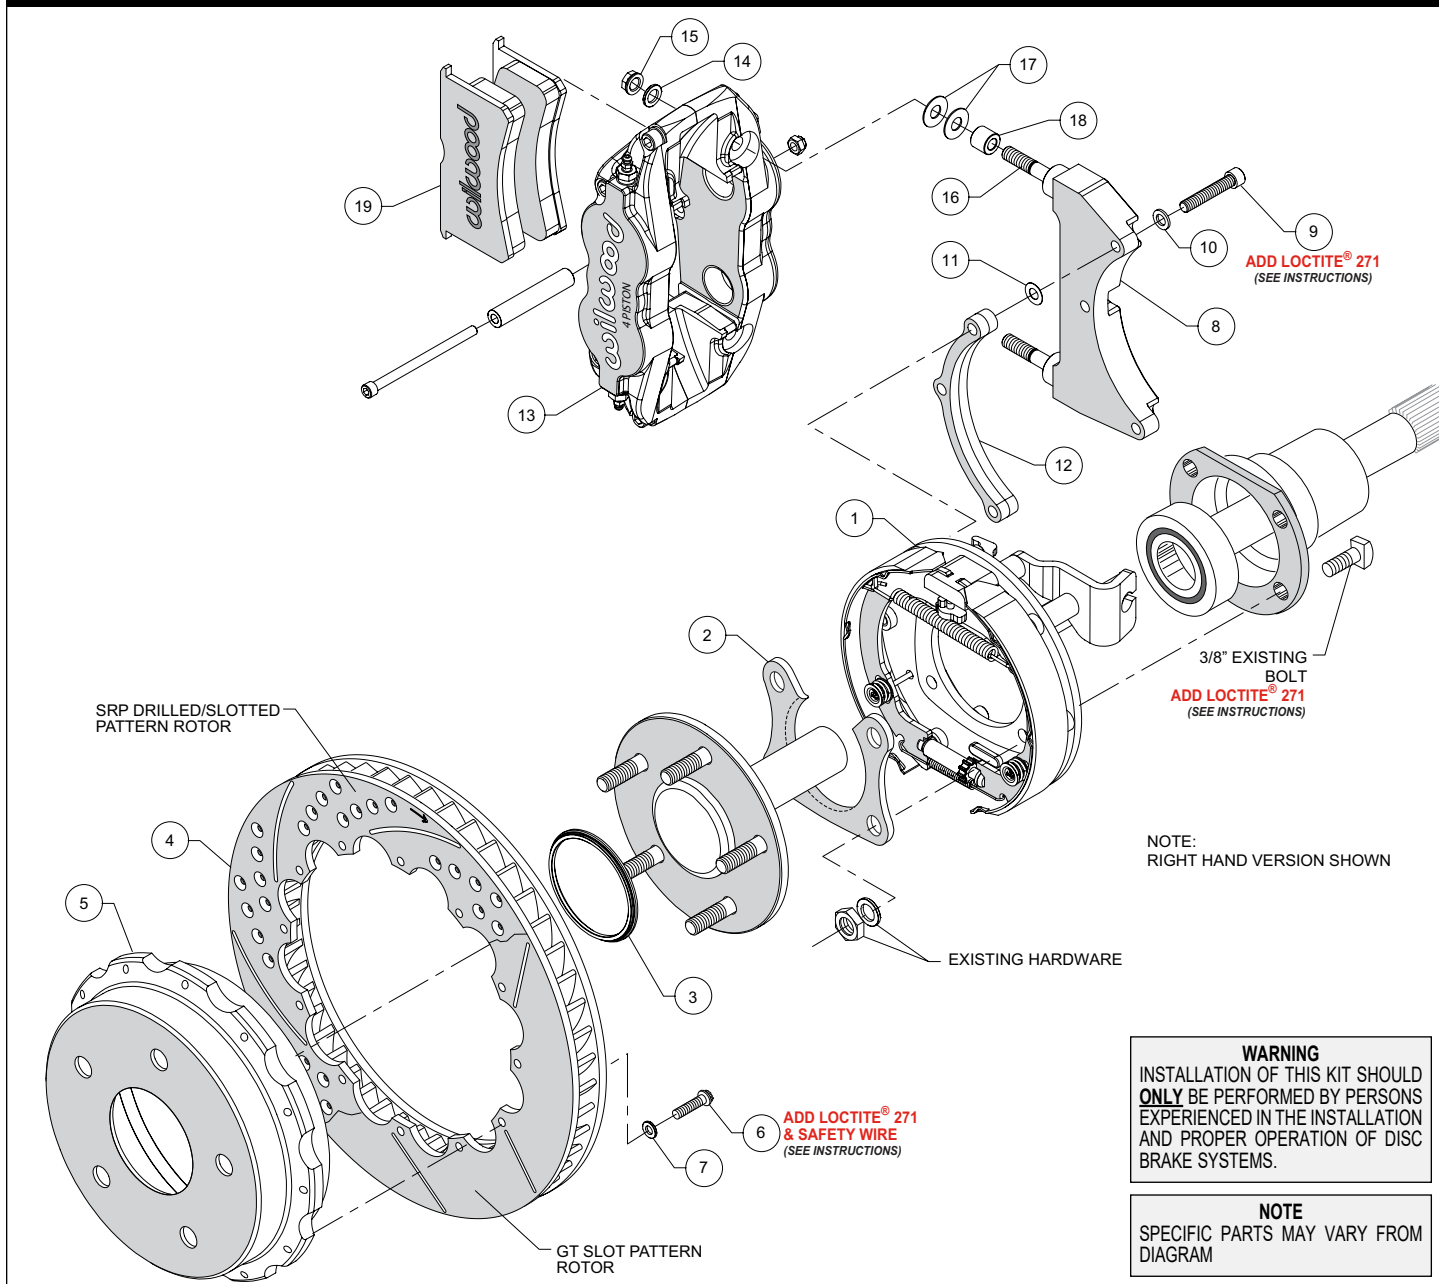
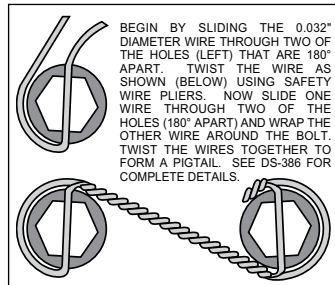

Figure 1. Typical Installation Configuration
Figure 5. Safety Wire Diagram
Assembly Instructions (numbers in parenthesis refer to the parts list, and Figure 1 on the preceding pages): **CAUTION:** All mounting bolts must fully engage clinch nuts. Be sure to check that all bolts are either flush or protruding through flanged side of clinch nut after shimming.
- Orient the bracket assembly (1) as shown in Figure 1 and Photo 1 and slide it onto the axle. Insert the axle and bracket into the axle housing. Ensure that the bracket assembly backing plate fits flush against the axle housing flange.
- Install the bearing retainer (2) with the opening pointing upward and the lip facing inward (toward the bearing), as shown in Figures 1 and 4, and Photo 2. Secure retainer and bracket assembly to the axle housing flange using the Original Equipment Manufacturer (OEM) bolts, washers, and nuts, Figure 1. Apply red *Loctite*® 271 to the OEM bolt threads and torque to OEM specifications.
•**NOTE:** Please reference the caution statement at the beginning of the assembly instructions. The caliper mounting bracket (8) should initially be installed with clean, dry threads on the mounting bolts. Orient the bracket as shown in Figure 1 and Photo 3, and install using bolts (9) and flat washers (10). Initially place one .015" shim washer (11) on each bolt between the bracket (8) and spacer (12), Figure 1. Temporarily tighten the mounting bolts. **NOTE:** End of bolt should not exceed inside face of insert. The bracket must tighten squarely against the back side of the bracket kit assembly (1). Inspect for interference from casting irregularities, machining ridges, burrs, etc. Later, after the caliper alignment has been checked, the mount bolts will be secured using red *Loctite*®.
•Orient the rotor (4) and the hat (5) as shown in Figure 1 and Photo 3. Attach rotor to hat using bolts (6) and washers (7). Apply red *Loctite*® 271 to the bolt threads and torque to 140 **in-lb** using a criss-cross pattern. For an added measure of security, the bolts may be safety wired using standard 0.032 inch diameter stainless steel safety wire as shown in Figure 5. Please refer to Wilwood's data sheet DS-386 (available at www.wilwood.com/Pdf/DataSheets/ds386.pdf) for complete safety wire installation instructions.
•Slide the rotor registration adapter (3) onto the axle register on the axle flange with the smaller O.D. facing toward the rotor/hat (4/5), Photo 5. Align the hole pattern in the hat with the stud pattern on the axle flange and slide into place, Figure 1 and Photo 6. **NOTE:** The rotor/hat must fit flush against the axle flange or excessive rotor run out may result. Install three lug nuts (finger tight) to keep the rotor/hat assembly in place while continuing with the installation. **NOTE:** Some OEM and after market axles come with stud sizes larger than 0.50" diameter. Verify stud size and have a qualified machine shop drill the bolt circle of the hat/rotor to the correct stud size, if necessary.
•Initially place two .035" thick shims (17) and spacer (18) on each stud as shown in Figure 1 and Photo 7. Mount the caliper (13) onto the bracket (8) using lock nuts (15) and washers (14), Figure 1. Temporarily tighten the lock nuts and view the rotor through the top opening of the caliper. The rotor should be centered in the caliper, Photo 8. If not, adjust by adding or subtracting shims (11) between the bracket (8) and the spacer (12). Always use the same amount of shims on each of the three mounting bolts. Once the caliper alignment is correct, remove the bracket mounting bolts (9) one at a time, apply red *Loctite*® 271 to the threads, and torque to 180 **in-lb**.